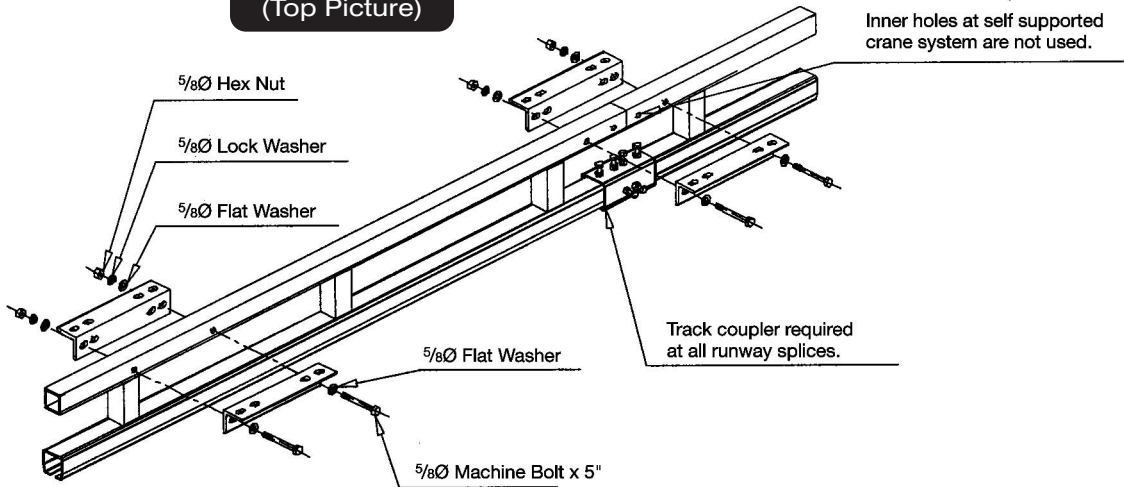

FIGURE 6
3. Raise the runway and connect the angle clamps to the underside of the angle brackets of the header using $\frac{5}{8}$ " x 2" bolts (4 bolts for each runway connection) as shown on *Figure 6*. Make sure there is a flat washer over each slotted hole and a lock washer under the hex nut. Set the hex nuts finger tight at this point.
4. If the system has more than two support frames, it will require a runway splice connection. Prepare the runway same as above. The runway top tube at a splice connection will have a common clamp angle. Before attaching the second runway to the header, slide a splice coupler (see *Figure 6*) onto the track of either adjoining runway (completely in) and secure it temporarily with a set screw. Center the coupler at the splice after the runways are bolted on to the header angle brackets. Set the coupler adjusting screws to finger tight temporarily. Continue this until all the runways are installed.